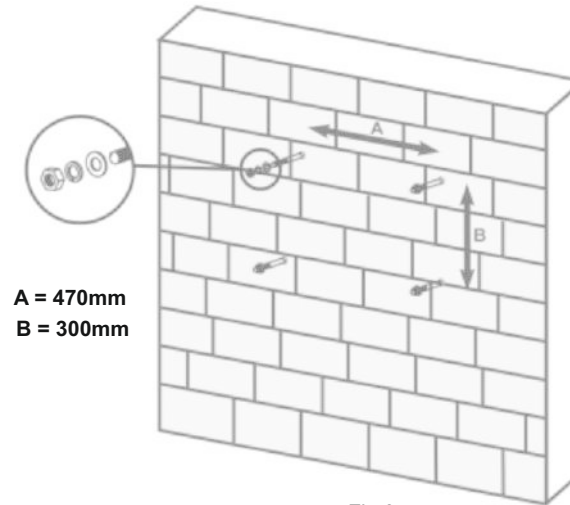

Fig 9
Step1 : Drill four holes on wall at distance of inverter mounting position as shown in fig.9 & insert anchor bolt in holes.